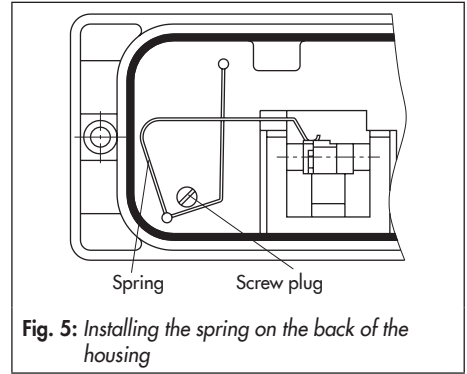
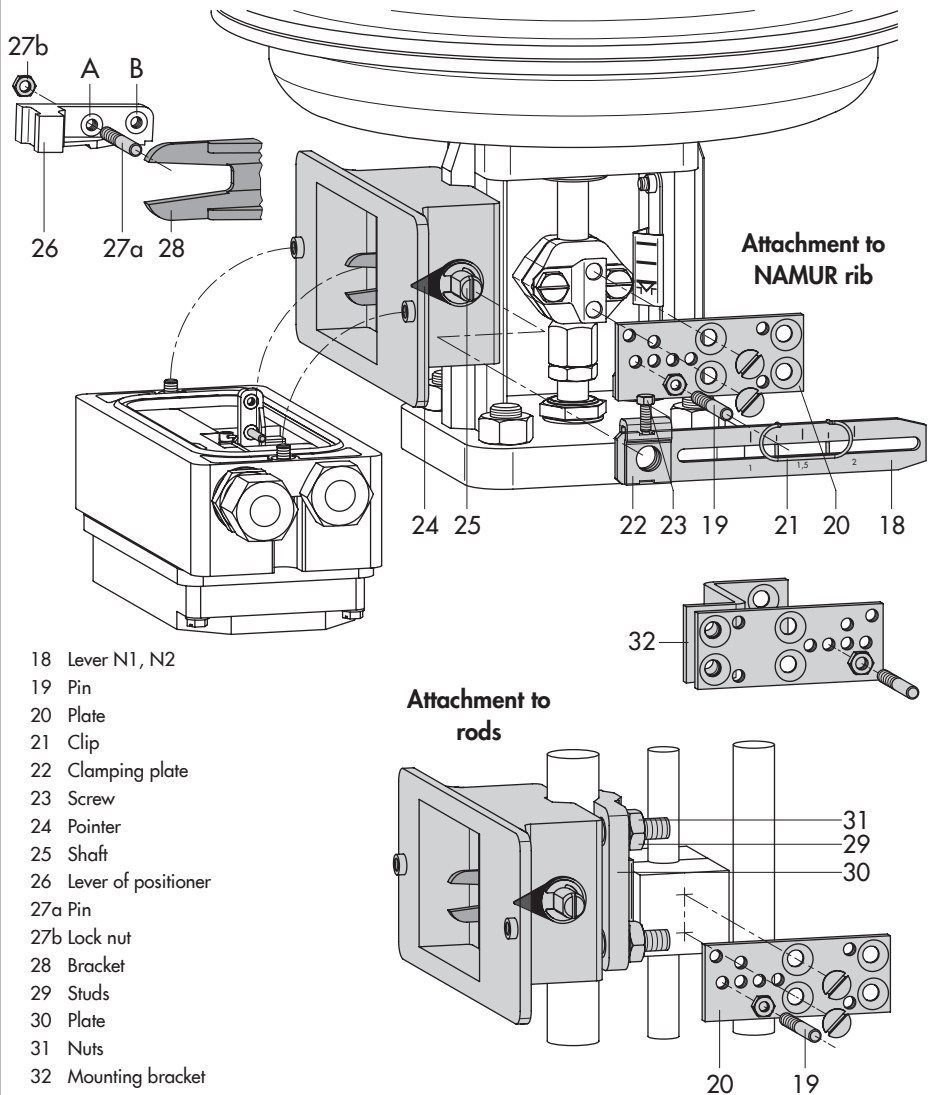

Fig. 5: Installing the spring on the back of the housing
Fig. 7: Attachment according to IEC 60534-6 (NAMUR)
7. Remove screw plug on the back of the positioner (Fig. 5) and seal the side signal pressure output with the stopper included in the accessories.
8. Mount the positioner so that the hole in the intermediate plate (15) covers the seal in the hole of the actuator yoke.
An adapter housing is required for attachment (Fig. 7). The valve travel is transmitted over the lever (18) and shaft (25) to the bracket (28) of the adapter housing and then passed on to the pin (27a) located on the positioner lever. To ensure that the pin (27a) is properly located in the bracket (28), fix the spring included in the accessories at the back of the positioner housing as illustrated in Fig. 5.
Mounting position on the plate looking onto the travel pick-up (20), actuator facing upward (see also Fig. 7)
Select the required mounting parts and range spring from Table 4 or Table 5 and install them as illustrated in Fig. 7:
2. Move the shaft (25) in the adapter housing so that the black pointer (24) matches the cast marking on the adapter housing.
3. Fasten the clamping plate (22) in this position using the screw (23).
4. Screw the pin (27a) into the positioner lever on the side where the press nut is located. Lock it in position with the hex nut on the other side, observing the mounting position A or B according to Table 6 and Fig. 7.
5. Place the positioner on the adapter housing, taking into account the mounting direction. Fasten it, making sure that the pin (27a) rests against the bracket (28).